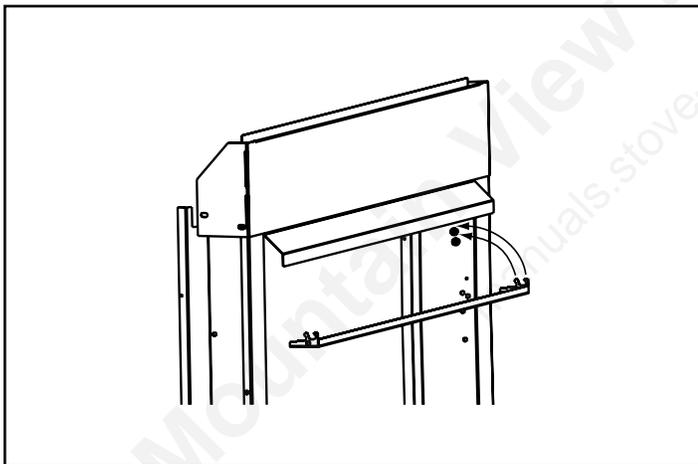

Figure 12.12 Installing Top Latch Cover
- Reinstall upper latch cover (see Figure 12.12).
- Insert top latch cover over existing shoulder screws. See Figure 12.12.